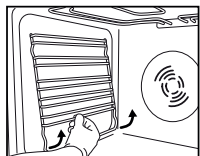

Fig.3
1. Remove the side accessory holder grilles (Fig. 3).